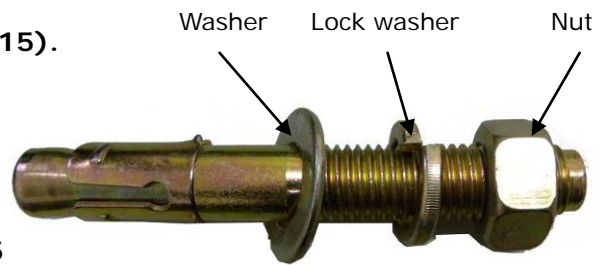

Fig. 15
1. Prepare the anchor bolts (See Fig. 15).